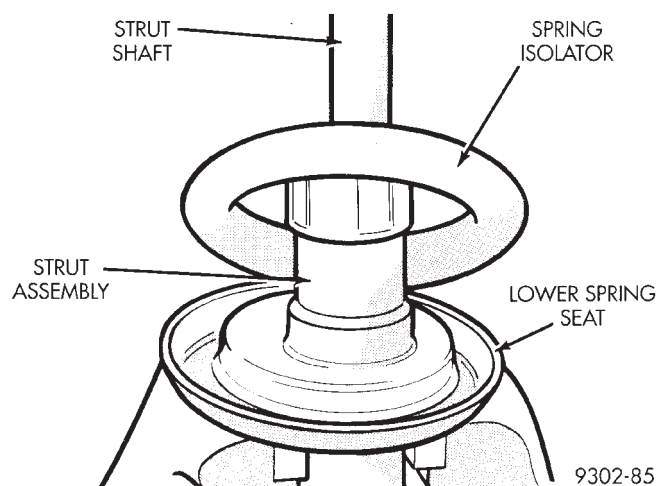

Fig. 44 Coil Spring Lower Isolator
(8) Remove the coil spring lower isolator from the strut (Fig. 44).
(9) Inspect all disassembled components for signs of abnormal wear or failure replacing any components as required. Inspect strut unit for signs of abnormal oil leakage and for loss of gas charge. To check for loss of gas charge in strut unit. Push strut shaft into body of strut and release, strut shaft should return to its fully extended position. If strut
(1) Install original or new, lower spring isolator on strut unit (Fig. 44). If installing original isolator align paint marks on isolator and strut unit.